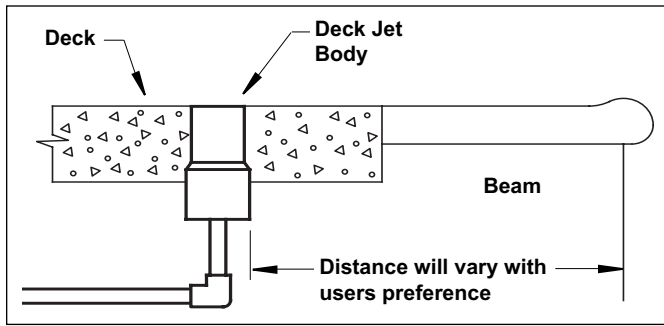

Figure 3. Deck Jet Location
- Anchor the Deck Jet Body (include the protective cover) so that it will be level **and** at the same height as the finished deck (see Figure 3).